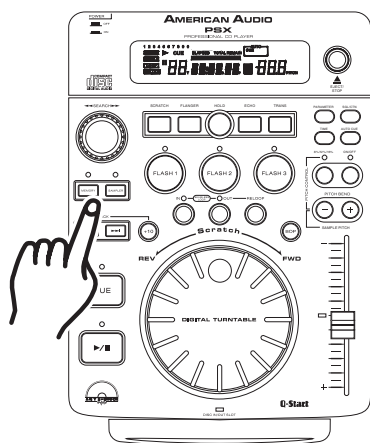

Figure 17
- 1) Create a Cue Point by one of the two means listed on page 14. Press the **MEMORY BUTTON (12)**, as in Figure 17. The red Memory Cue LED will glow indicating the store memory function has been activated. You may now press any one of the three **FLASH BUTTONS (6)** to store your cue point into memory (Figure 18). After pressing one of the **FLASH BUTTONS (6)**, the corresponding Flash Button LED will flash briefly. The LED on the above the Flash Button (6) will remain lit indicating either a sample or cue point is stored in memory. The red Memory LED will turn off.